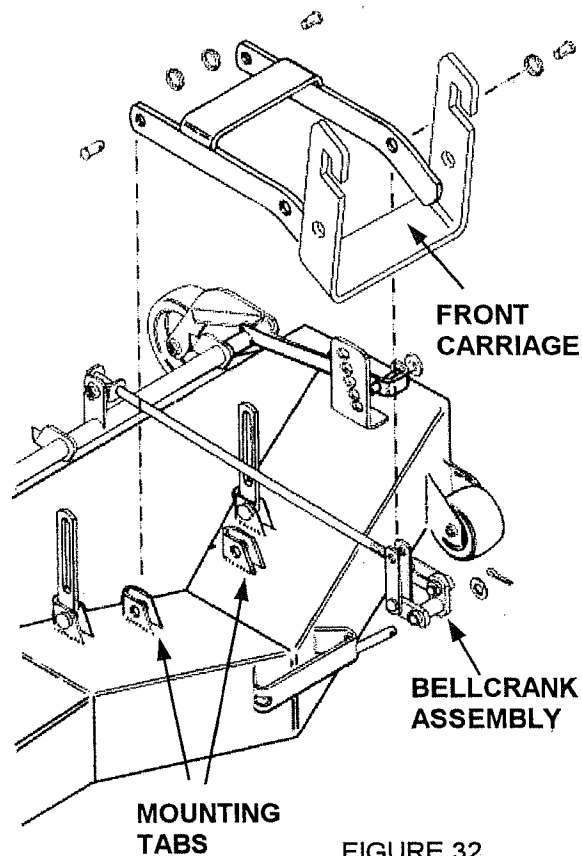

FIGURE 32
3. (See figure 32) Mount the front carriage to the mounting tabs on the mower deck. Use 1/2" x 1" clevis pins and retaining rings.